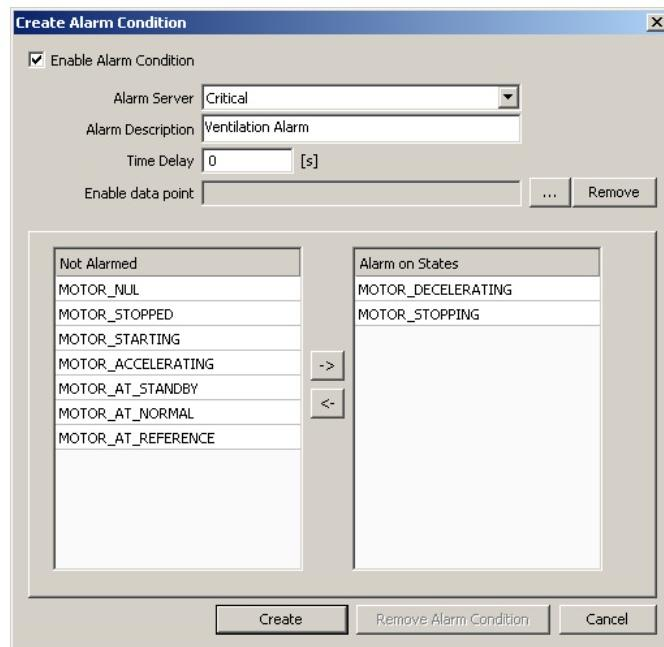

Figure 125: Alarm Condition for a Multi-State Data Point.
7. For a multi-state data point, the dialog as shown in Figure 125 appears. Select the **Alarm Server**. Optionally, enter an **Alarm Description**. If left empty, the description of the data point is used. Enter a **Time Delay**, after which the condition is evaluated. Select the **Alarm States**, which triggers the alarm, by clicking the arrow buttons.